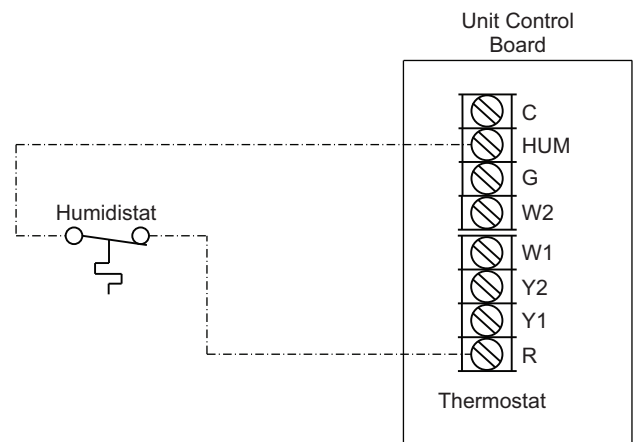

Fig. 34 — Humidistat Connections to UCB
3. Connect one of the leads from the 2-conductor cable to the HUM terminal on the UCB (Unit Control Board). Connect the other lead to the R terminal on the UCB. See Fig. 34.